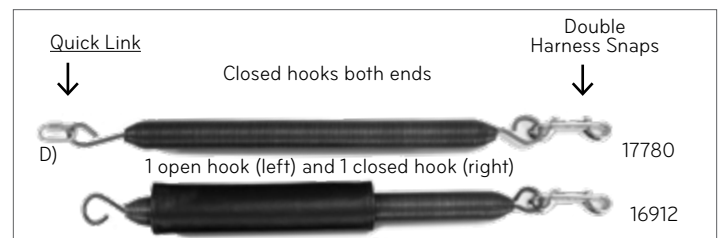

Figure 16: D) Push Through Bar Springs
9. Attach the Push Through Bar Spring with the quick link to one of the top tube outer eye bolts. The other Push Through Bar Spring will connect to the Reformer frame eye bolts using the open hooks. See Figure 16 and 17 for reference.